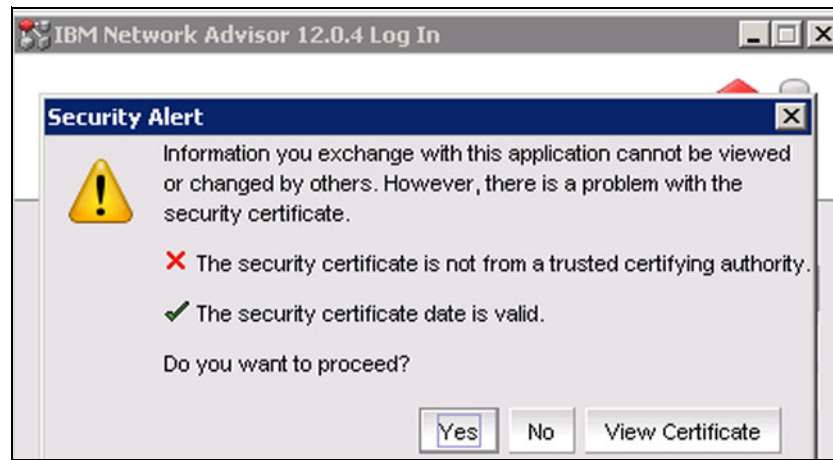

Figure 4-25 Security Alert
21. A Security Alert window opens, as shown in Figure 4-25, which prompts you to permit the traffic by accepting the security settings.